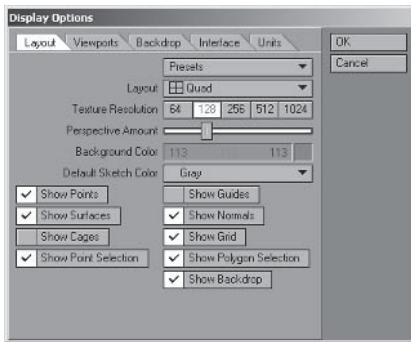

Figure 1.3-2. Display Options>Layout.
7. See Figure 1.3-2 for which Show option check boxes I have set as a default. The illustrations in the tutorials reflect my settings, but feel free to set them however you wish to best suit your preferences.